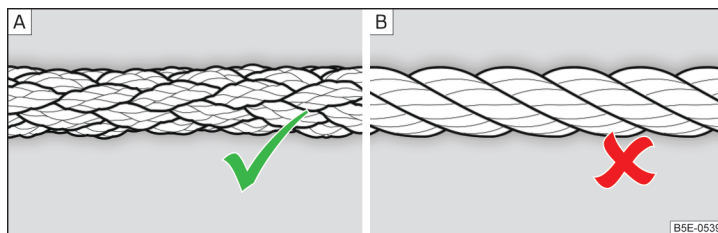

Fig. 126 Braided tow rope / Spiral tow rope
For towing, a braided tow rope is to be used » Fig. 126 - A.
- Do not use spiral rope for towing » Fig. 126- [B], the towing eye may unscrew from the vehicle - risk of accident.